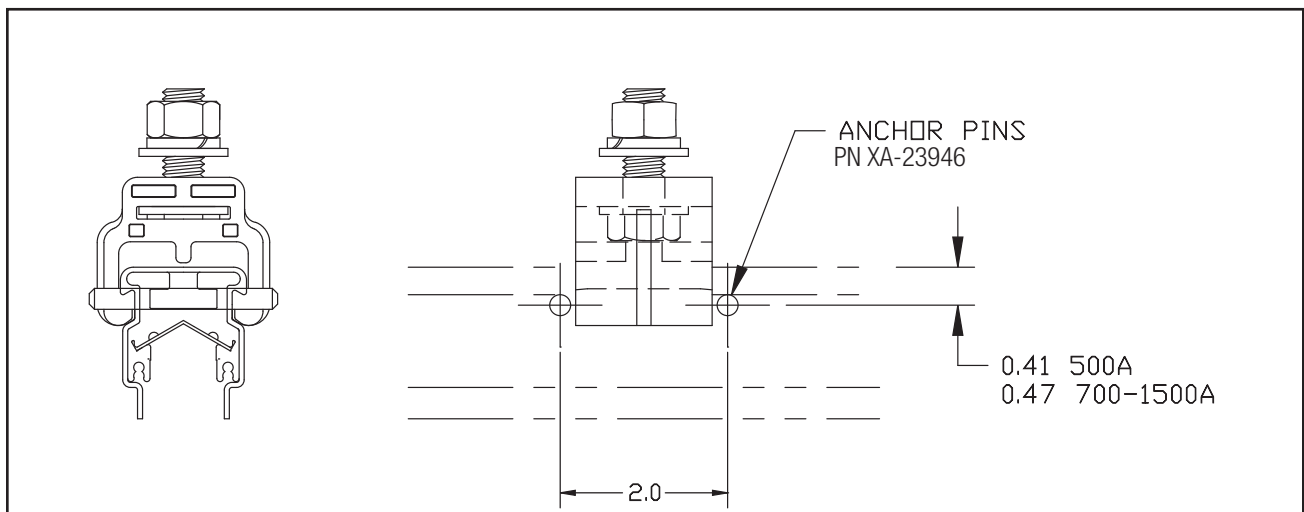

Figure 15-1 500A-1500A Pin Placement
2. Drill two (2) 0.247" (size "D") holes through the conductor rail and cover. Drill these holes as straight as possible, parallel to the top of the rail. See **Figure 15-1**.